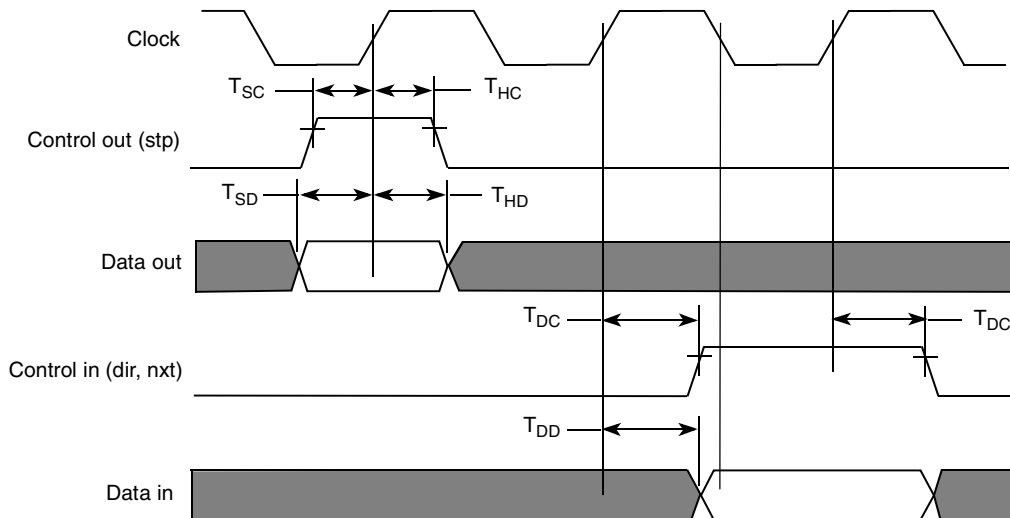

Figure 84. USB ULPI Interface Timing Diagram
The high speed (HS) interface is supported via the ULPI (Ultra Low Pin Count Interface). Figure 84 depicts the USB ULPI timing diagram, and Table 61 lists the timing parameters.